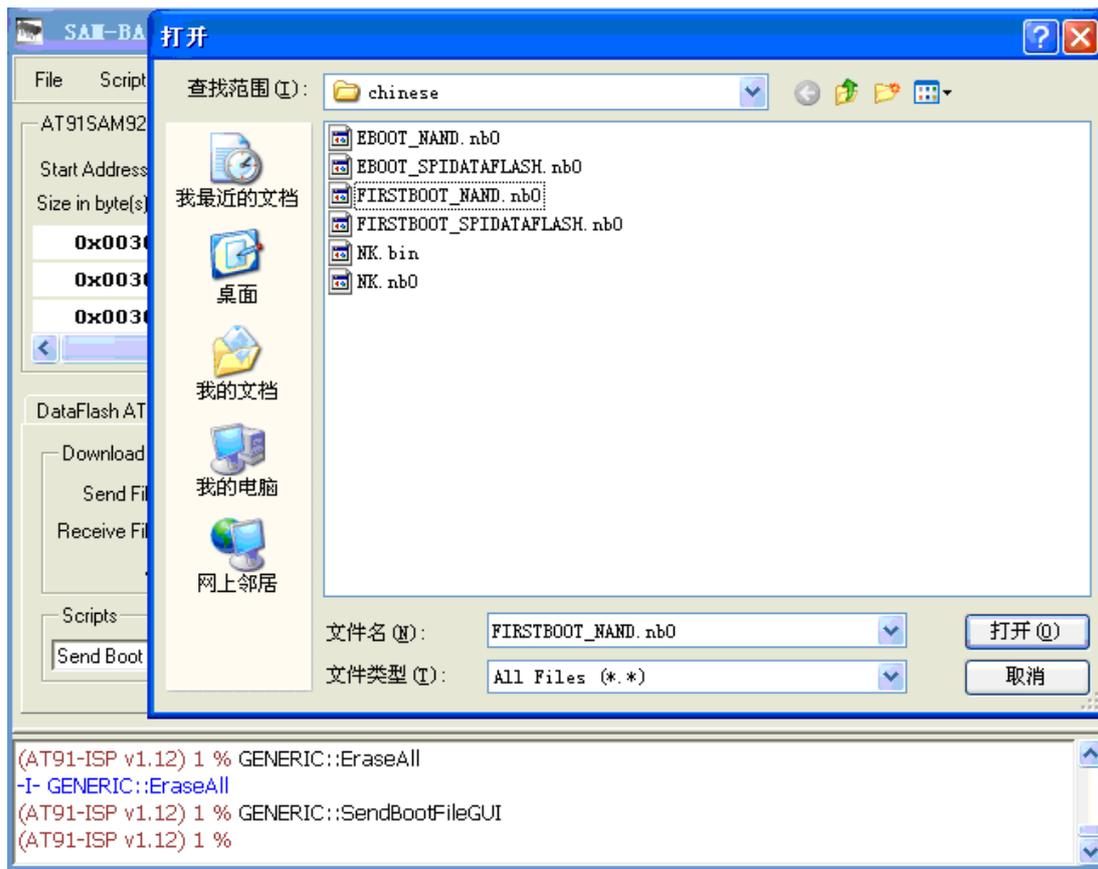
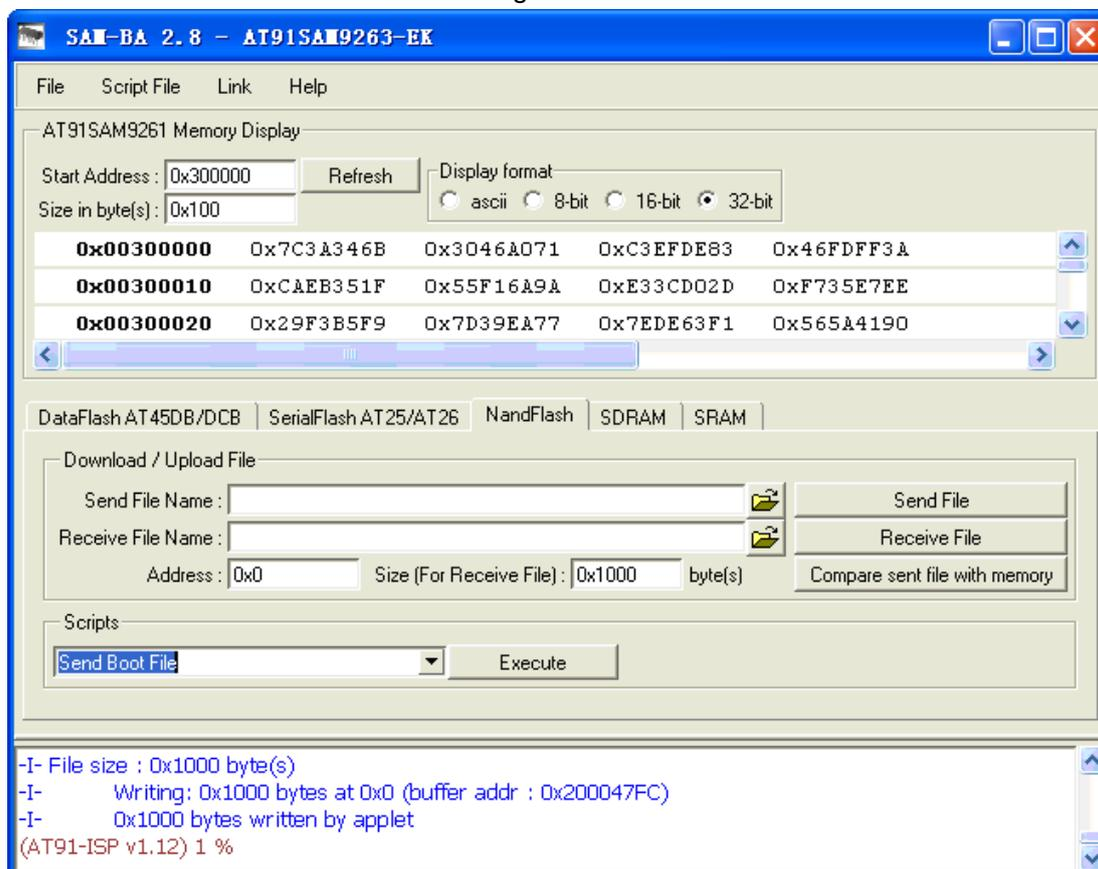

Figure 3.21
Figure 3.22
- As shown in Figure 3.21, select FIRSTBOOT_NAND.nb0 file under the path \03 WinCE 6.0 Kit\00 Image\ in SBC6300X CD in the open file dialog box of SAM-BA v2.8, then click Open button in open file dialog box of SAM-BA v2.8, SAM-BA v2.8 will automatically start burning FIRSTBOOT_NAND.nb0 file to the beginning of 0x00000000 address of NAND flash on SBC6300X main board. After the burning is successful, the interface as shown in Figure 3.22 will appear.